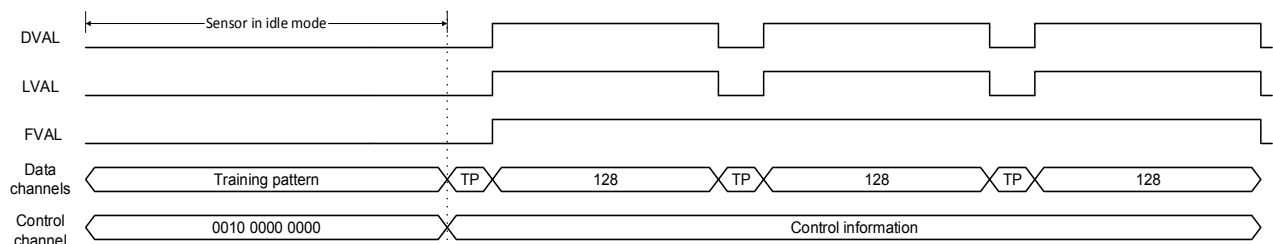

Figure 33: Training pattern location in the data and control channels.
Figure 33 shows the location of the training pattern (TP) on the data channels and control channels when the sensor is in idle mode and when a frame of 3 rows is read-out. The default mode of 16 outputs is selected.